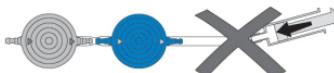

Fig. 25: Avoidance of pressurisation
- Pressurisation with a single-use syringe should be avoided both at the proximal and the distal end. (Fig. 25).